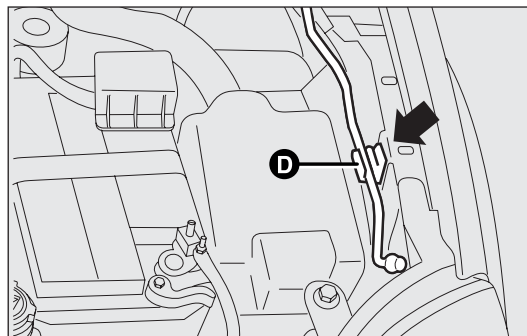
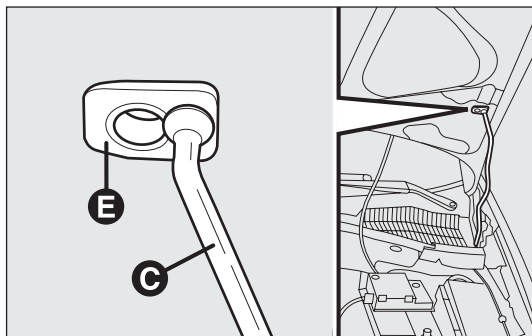

fig. 110
fig. 111
- ☐ lift the bonnet and, at the same time, release the bonnet support rod from its locking device D-fig. 110; then insert the end of the bonnet support rod C-fig. 111 into the hole E.
- ☐ hold the bonnet up with one hand and with the other remove the rod C-fig. 111 from the hole E and fit it back into its catch D-fig. 110;